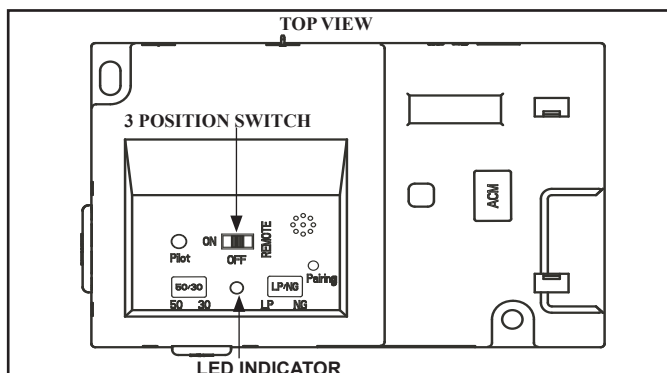

Figure 3.6 IFT-ECM
1. The Electronic Control Module (IFT-ECM) has a three-position ON/OFF/REMOTE selector switch that must be set for proper operation. See Figure 3.6. When changing switch positions, it is important to pause in each position for 1-2 seconds.
- Locate the module selector switch. (See Figure 3.6).
- Wait five (5) minutes to allow possible accumulated gas to clear.